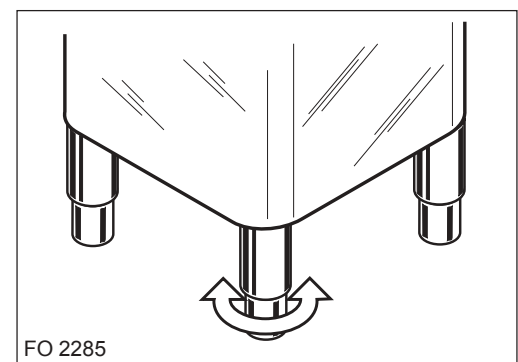

Fig. 3
6. Ensure that the cooker is level. If necessary, adjust by turning the bottom part of the feet, until the appliance is completely stable. (Fig. 3). A spirit level should be placed on a cake tray on one of the shelves to confirm that the appliance is correctly levelled.